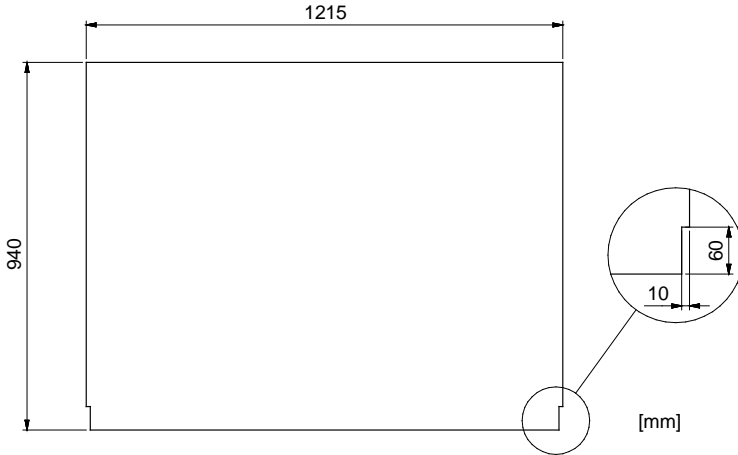
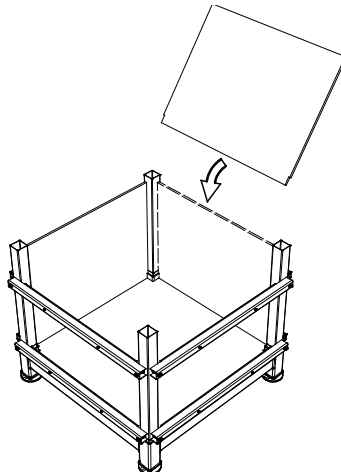

Figure 23. Dimension of the gravel side board. Note that the board has got notches in both bottom corners.
Figure 24. Placement of the side board units.
5.2 Cut four pieces of 18 mm formwork plywood, complying with EN 636-3, to the format as shown in Figure 23. Place the boards one after another in the Base, with the notches facing down, leaning against the Formwork Supports, see Figure 24. The boards shall be placed onto the Bottom Frame itself and not onto the Bottom Board. Fix the boards to the Formwork Supports with wooden screws. When all the boards are in place and they create a box, go to step 6 for mounting of the Top Frame.